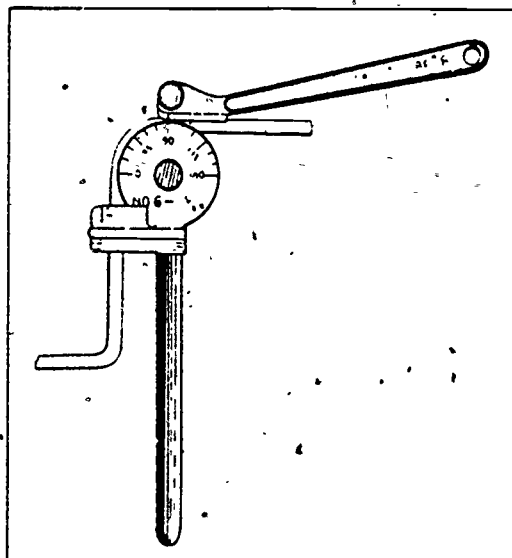

Figure 3-35. Small hand tube bender.
**Tube bender.** The tube bender is designed to shape and form smooth bends in soft copper tubing and pipe without collapsing the pipe. Figure 3-35 illustrates a small hand tube bender. This tube bender is normally used to bend pipe up to 1/2-inch diameter. When